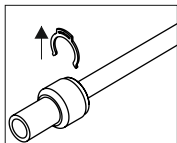

fig. 1
- 1) Remove the safety clip from the quick connector (if any) (fig. 1).